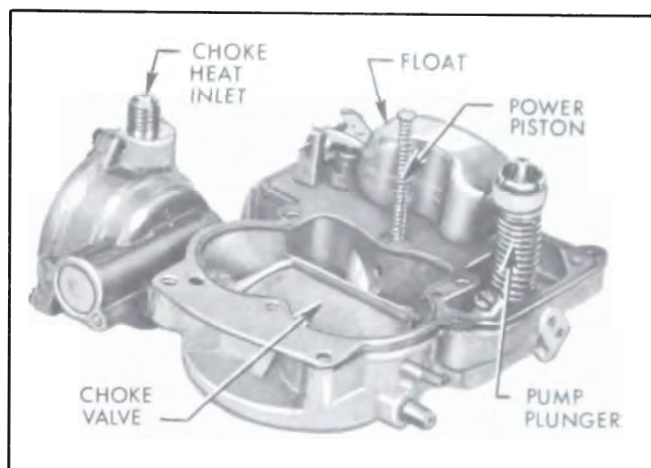

Figure 3-29—Air Horn Parts - V-6 Engine
1. Place air horn assembly inverted on bench. Remove float hinge pin and lift float assembly from cover. Remove float needle from float. Remove float needle seat, fibre gasket and needle seat screen. See Figure 3-29.